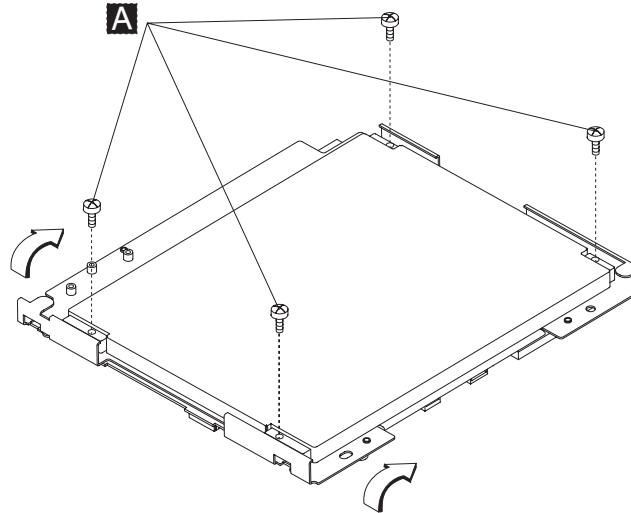

Figure 72. Removing the LCD from the system board
7. Turn the system board and LCD assembly LCD side up. Remove the four screws **A** securing the LCD to the system board, as shown in Figure 72 on page 89.
8. Remove the LCD by rotating it as shown in Figure 72, being careful to not pull on the LCD data cable on the left side. Holding the LCD vertically, unplug the LCD connector card from the LCD.